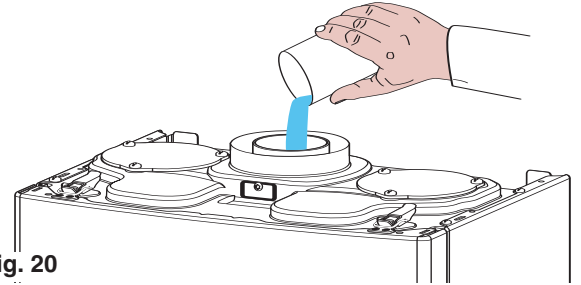

Fig. 20
**Attention ! Before starting the boiler, the siphon (11 Fig. 11) must be filled with water. Before fitting the flue I onto the boiler, pour 1/4 litre of water in the exhaust pipe as shown in Fig. 20.**
**BEFORE CONNECTING THE FLUE, ENSURE THAT 1/4 LITRE OF WATER HAS BEEN POURED INTO THE EXHAUST CONNECTION TO FILL THE CONDENSATE TRAP (FIG. 20). SHOULD THE TRAP BE EMPTY THERE IS A TEMPORARY RISK OF FLUE GASSES ESCAPING INTO THE ROOM.**